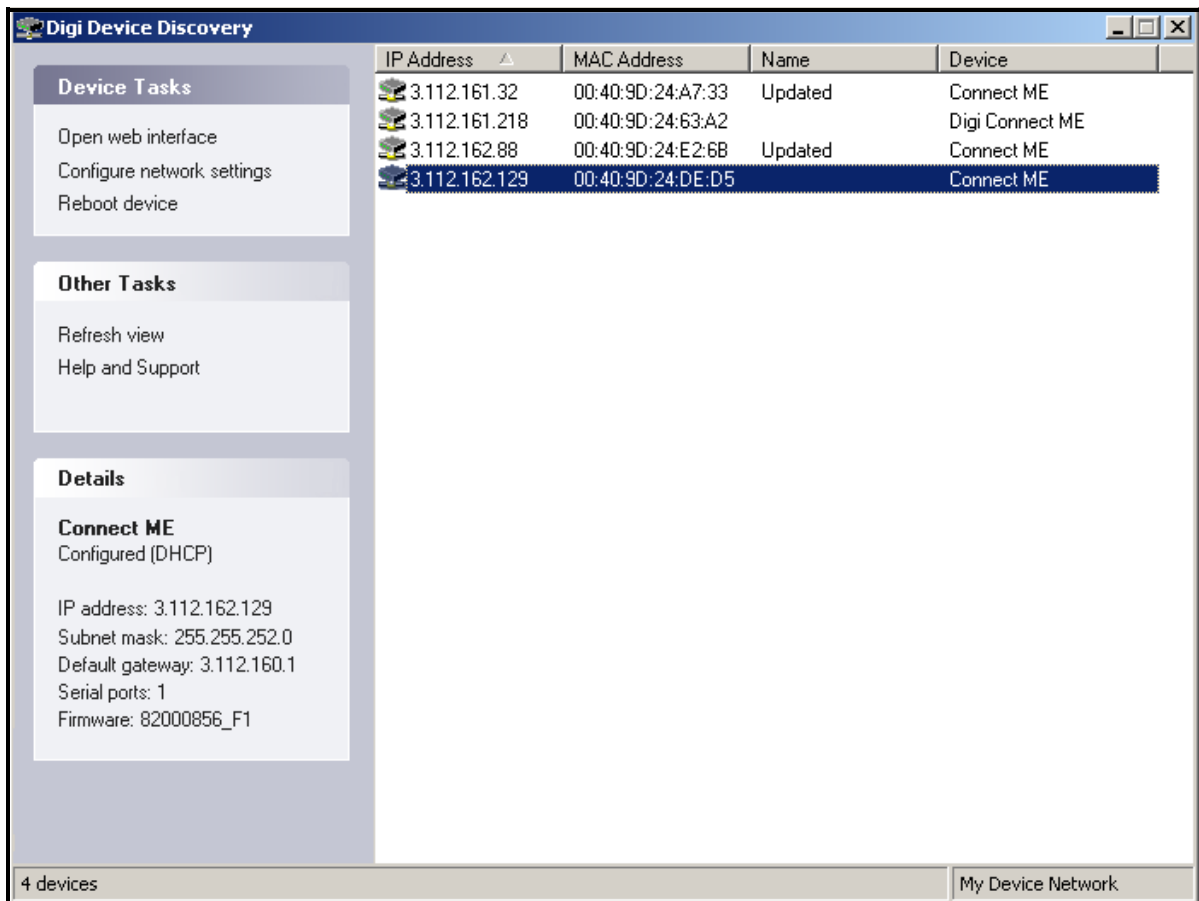

Figure 23: Finding the Assigned IP Address
1. Run the *Digi Device Discovery Program* (see Figure 23).